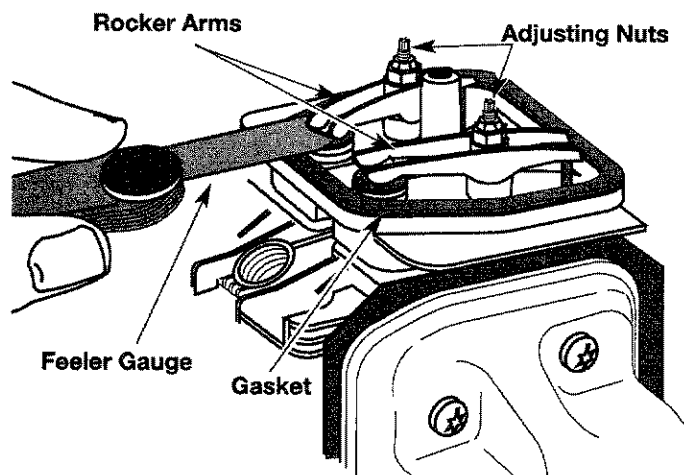

Fig. 55
- Slide the feeler gauge between the rocker arm and the valve return spring. Measure the clearance between the valve stem and rocker arm (Fig 55). Do both intake and exhaust valves.
- Turn the adjusting nut using a 5/16 inch (8 mm) wrench or nut driver (Fig. 55).